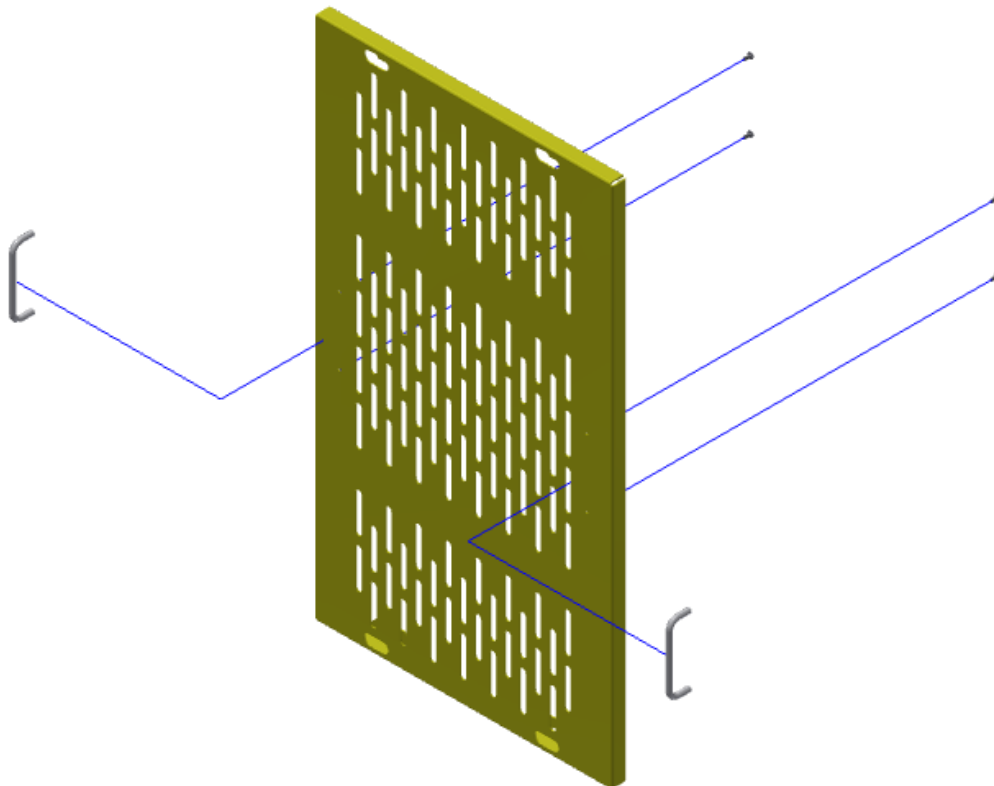

Figure 1: Machine Guard Panel Handle Assembly
- Assemble Pull Handles (p/n 201-099) to the Machine Guard Panels with the #8-32 screws provided as shown below (Figure 1).